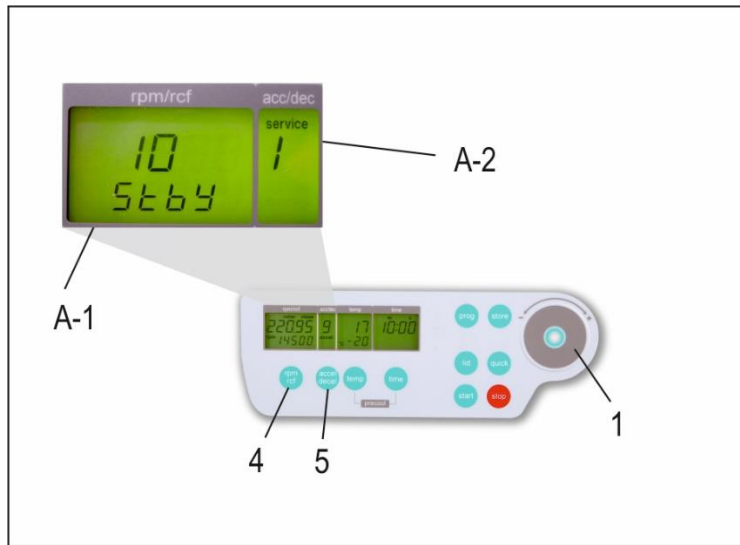

Figure 12
Proceed as illustrated, under point 1.8.1, to enter this program mode, press the key, "accel/decel" (5). In the display, "accel/decel" (A-2) flashes the word, "service". Select the letter "I" with the control field (1). As a result, appearing in the display, "rpm/rcf" (A-1), the word "Stby" (see Figure 12) . After pressing the key „rpm/rcf“, the standby mode can be turned off or pre-set to the needed value by turning the control field (1).